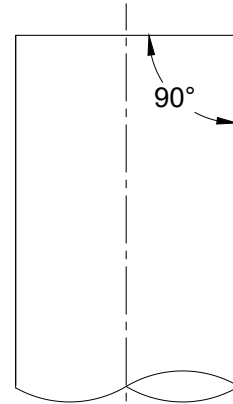

Fig. 1
1. Cut pipe so that the height of the finished cleanout is at or just below the height of the finished floor. (See Zurn Engineering Handbook or EZ1™ Submittal for dimensional heights). Ensure pipe is cut square and free of burrs or debris. See Fig. 1